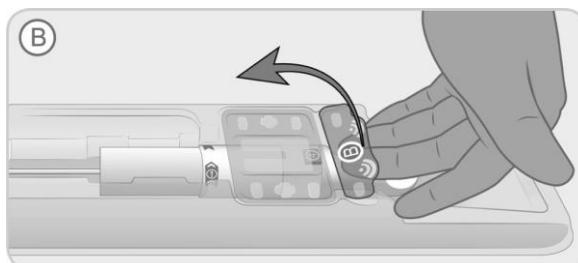

Figure 3. Remove Removable Tray Lid.
- B. Pull off the small Removable tray lid, indicated with a “B” on the tray, by lifting the tab as shown in Figure 3 until completely removed.